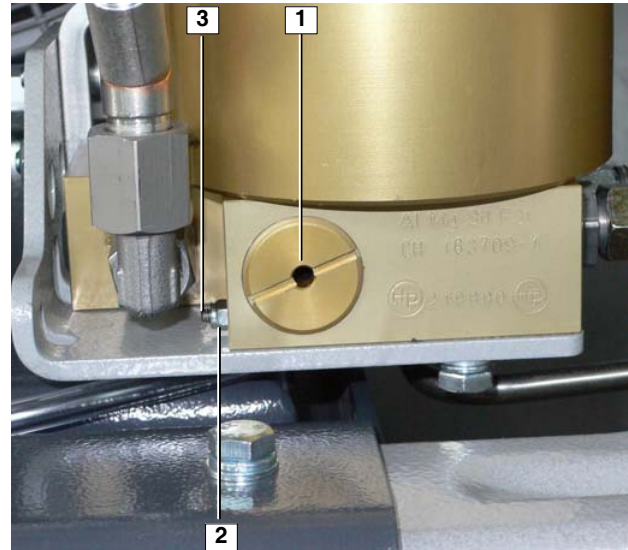
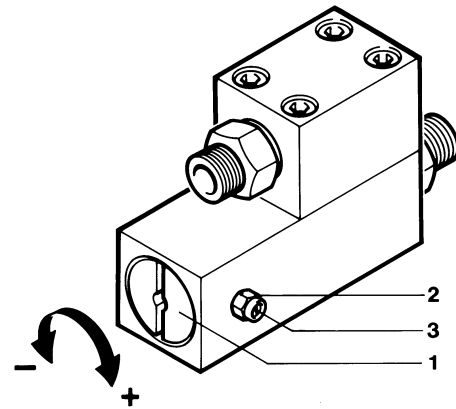

Abb. 48 Pressure maintaining valve, P31
Abb. 49 Pressure maintaining valve, P41
A pressure maintaining valve is integrated in the P31 filter base (Abb. 48), or mounted at the outlet of the filter system P41 (Abb. 49).
The pressure maintaining valve (Abb. 48) is adjusted at the factory to the required pressure and normally does not require regular maintenance or readjustment. In case of readjustment becoming necessary, loosen jam nut (2) and set screw (3). Adjust screw (1) to the required pressure using a suitable screw-driver.